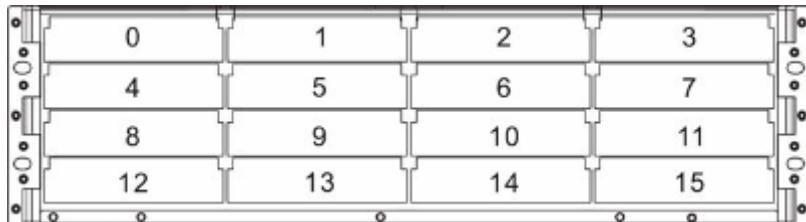

Figure 2-2: Drive Slot Numbering Sequence
The front panel of the X4 enclosure houses sixteen (16) hard drives in a 4x4 configuration as shown in *Figure 2-2*. When viewed from the front, drive bays (slots) are numbered **0** to **15** from the left to the right, and then from the top to the bottom.